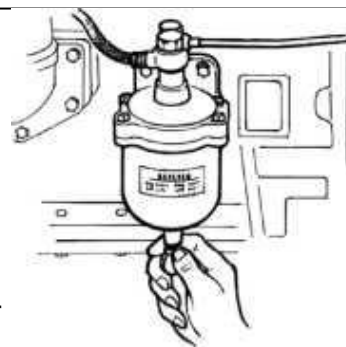

Fig3-3 Drain the Water
2.4 Drain the water from filter element with drain cock, and sedimentation filter (see Fig 3-3).